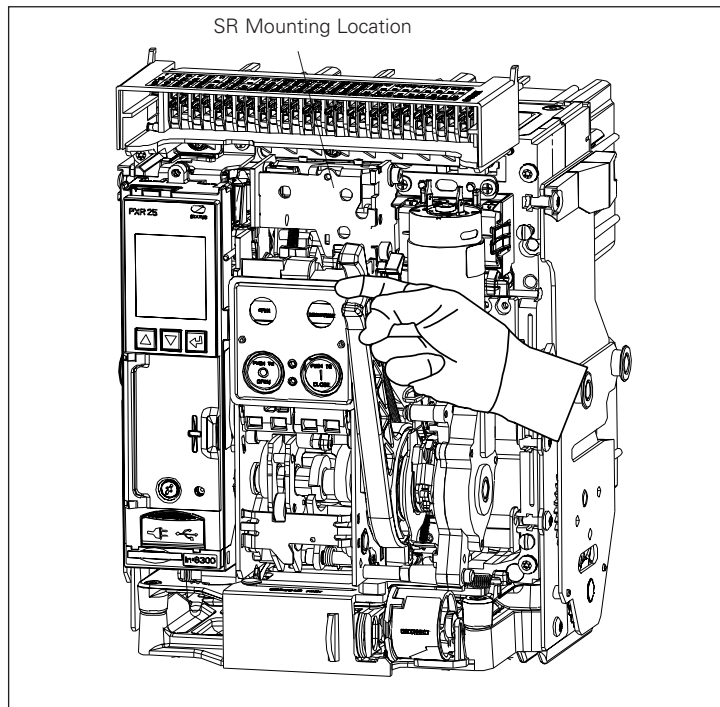

Figure 5. Step 3.
Step 3: To gain access to the mounting location, pull the charging handle down as shown in Figure 5.